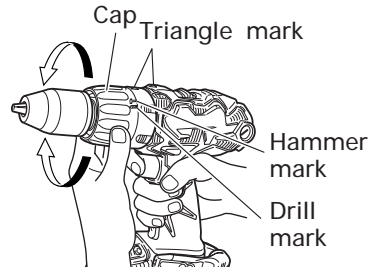

Fig. 21
9. Confirm the cap position <DV14DL> (See Fig. 21)
- (2) Tightening torque indication (See Fig. 21 and 23)
- (3) Adjusting the tightening torque (See Fig. 21 and 23)